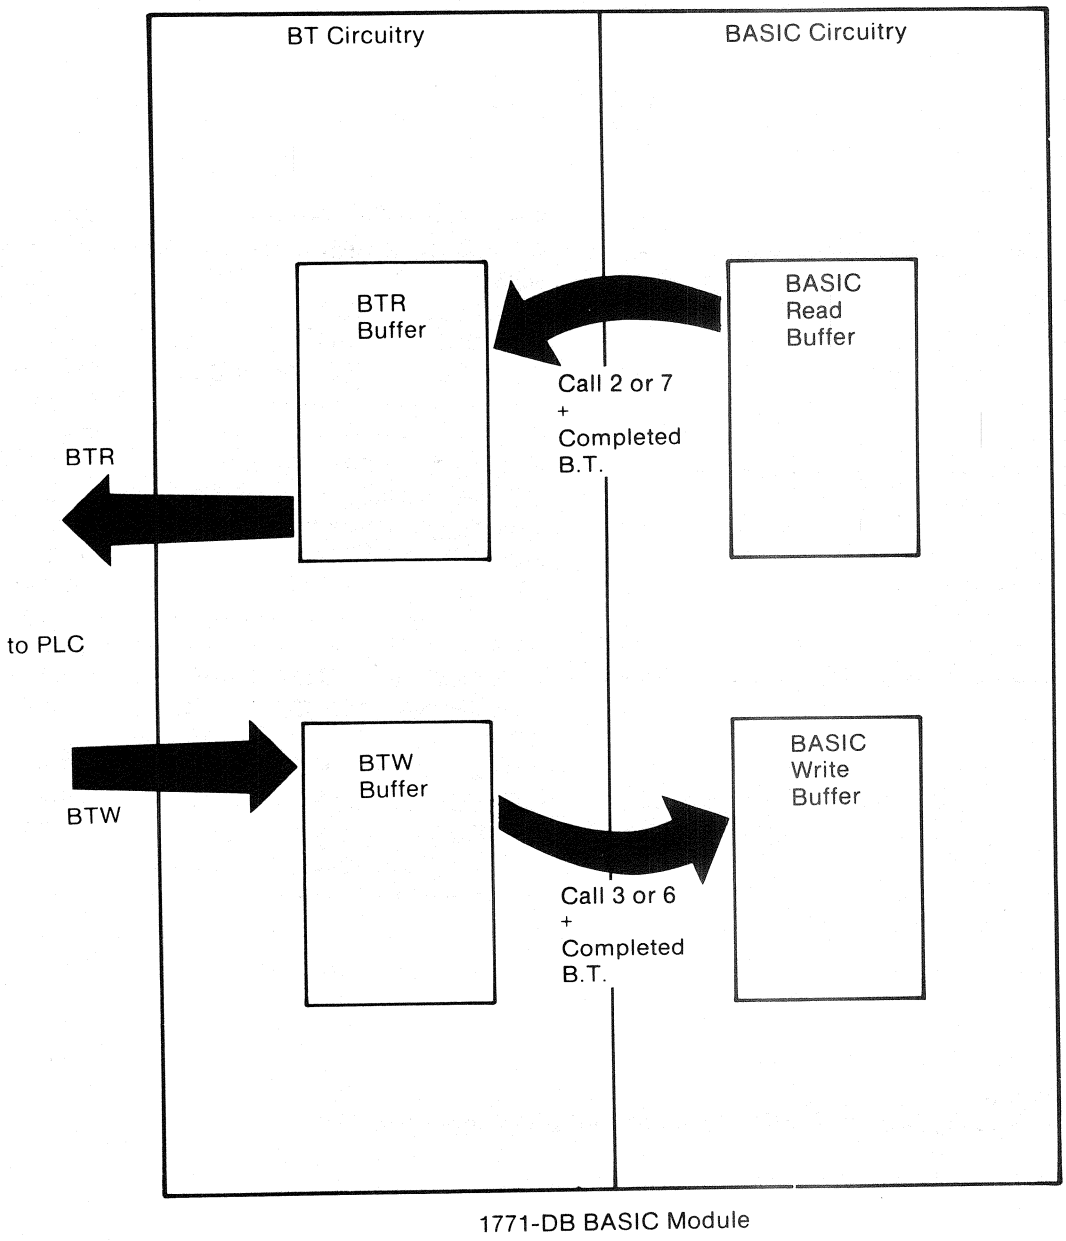

Figure 5-1
The DB module essentially consists of two buffers . These are the BASIC side buffer and the block transfer (BT) side buffer. The two buffers on the module are linked together via the data transfer routines, CALL 2 and CALL 6 for a write or CALL 3 and CALL 7 for a read. These routines transfer data between the two buffers located in the module. Refer to figure 5.1.
The first two rungs of the sample program toggle the requests for write block transfers (BTW) and read block transfers (BTR). The BTW instruction in rung 1 sends data from the PLC to the BASIC modules BTW buffer (refer to figure 5.1). The BTR instruction in rung 2, sends data from the BASIC modules BTR buffer to the PLC (refer to figure 5.1).
The first two rungs of the sample program toggle the requests for write block transfers (BTW) and read block transfers (BTR). The write block transfer instruction in rung one sends data from the PLC to the BASIC modules FTW buffer. The read block transfer instruction in rung two sends data from the BASIC modules BTR buffer to the PLC (refer to figure 5.1).